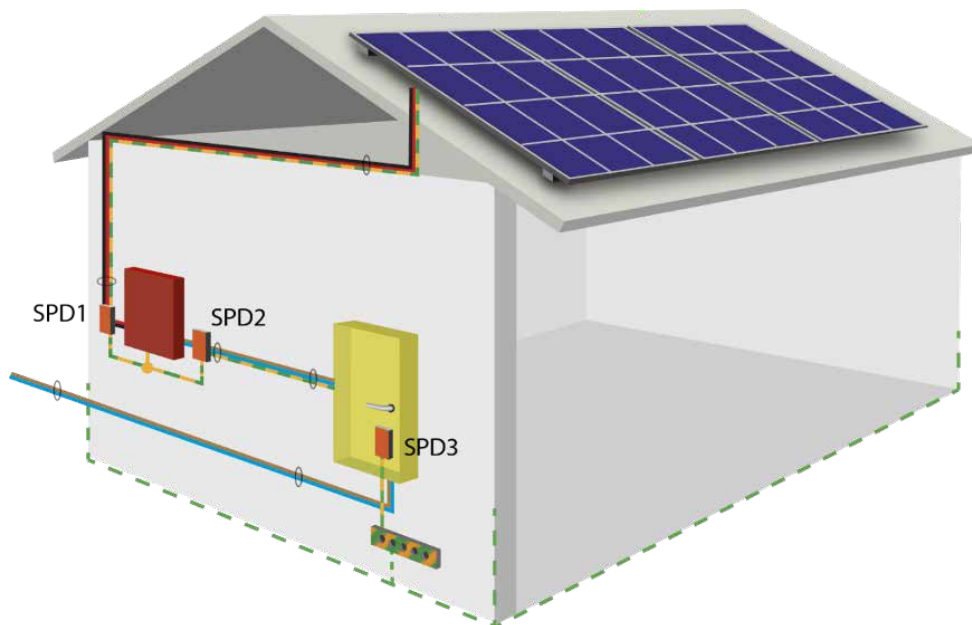

Figure 3. Building without LPS with Roof Mounted Panels
This is by far the most common case where a building has no external LPS and so the risk of a direct lightning strike is not considered. This is the configuration that applies to 95% of residential solar PV installations in Australia. Figure 3 shows a building with roof mounted solar array and inverter. Normally the inverter would be mounted close to the main switchboard and in a location that is readily accessible, in accordance with AS/NZS5033.
2. Install an SPD on the DC input to the inverter (SPD1 in figure 3). This SPD must be specifically designed for DC PV applications. AC SPDs are unsuitable and could present a hazard under fault conditions.
3. Install an SPD on the AC output of the inverter (SPD2 in figure 3). Whilst a shunt type surge diverter is suitable, more effective protection can be obtained by using a series connected shunt diverter, like the Novaris SSP, which eliminates the detrimental effects of lead inductance.
5. Install an SPD on the incoming AC supply in the main switchboard (SPD3 in figure 3). A rating of $I_{max} = 50kA$ is suitable for most applications.